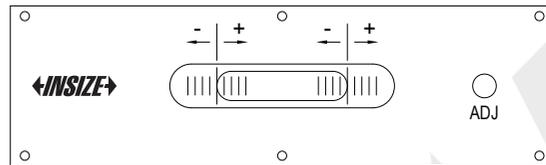

Fig.1
- a) Slide (not put) the level on a clean, plane and smooth surface. '-' side is on the left and '+' side is on the right (Fig.1).